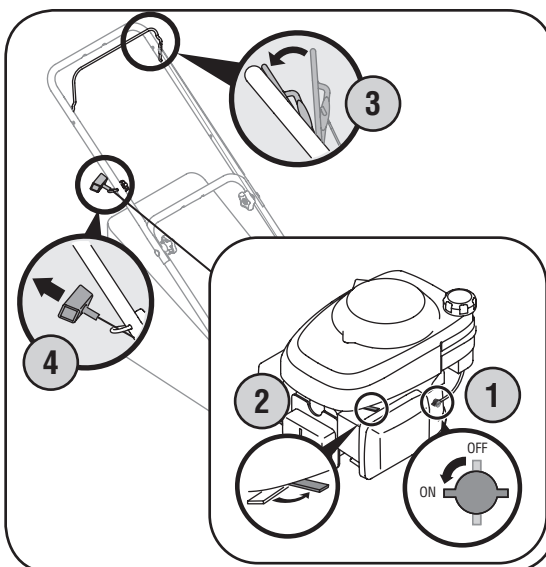

Figure 4-3: Starting the Honda engine.
1. Place the fuel valve lever found on the left side of the engine into the ON (OPEN) position. See Figure 4-3.
4. Holding these two handles together firmly, grasp recoil starter handle and pull rope out with a rapid, continuous, full arm stroke. See Figure 4-3. Keeping a firm grip on the starter handle let the rope rewind slowly. Repeat until engine cranks. Let the rope rewind each time slowly.